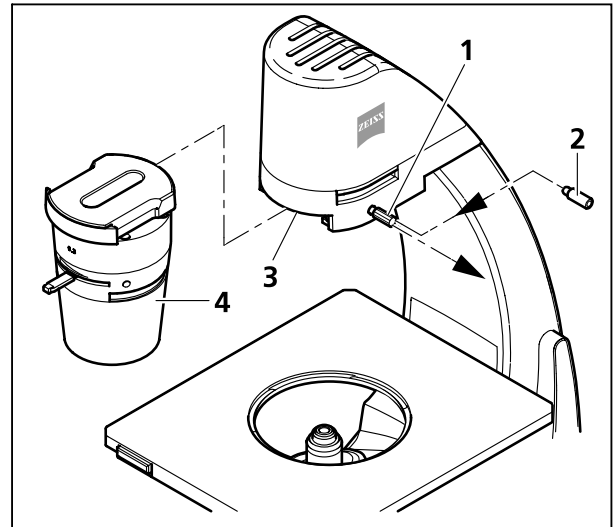

Fig. 4 Inserting the condenser
- Insert the condenser (Fig. 4/4) from the front into the guide (Fig. 4/3) and push it in to stop.
- Fix the condenser by tightening the knurled screw (Fig. 4/1).
If the knurled screw used to fix the condenser is in the way when working with the microscope, or if the condenser never needs to be changed, it can be fixed as well with the Allen screw (Fig. 4/2) included in the delivery, instead of using the knurled screw.